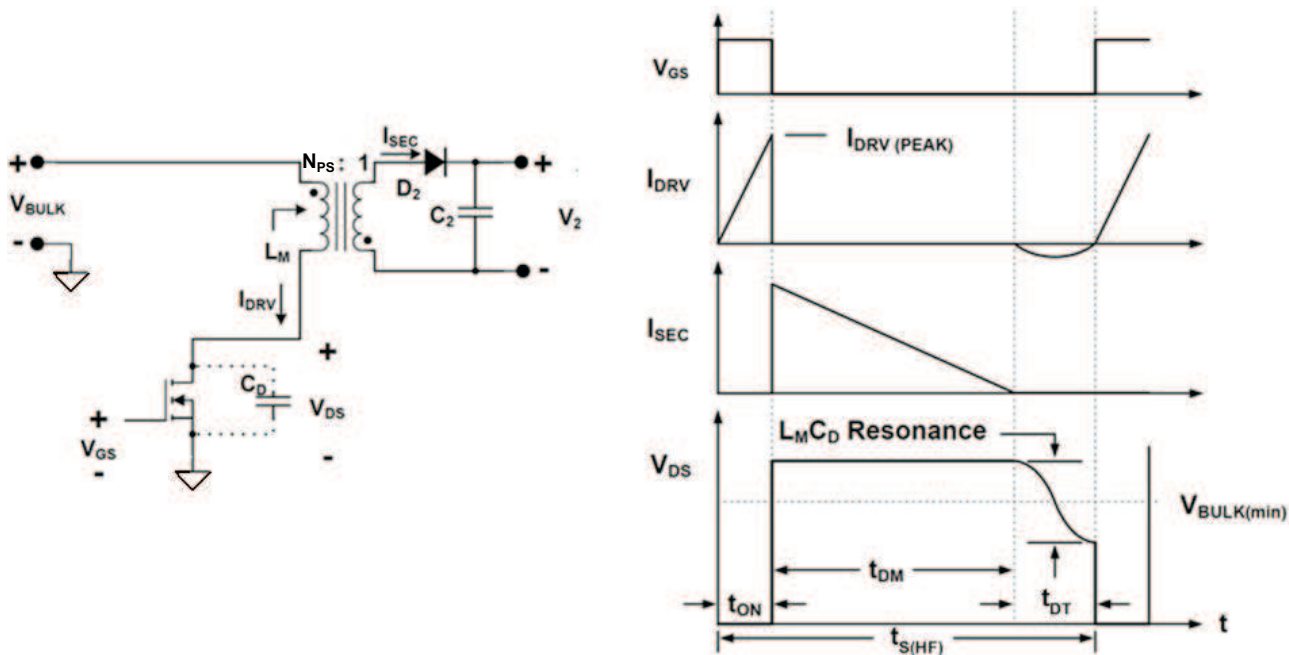

Figure 22. Basic Flyback Converter and Waveforms at Peak Load and Minimum V_{BULK} Voltage
To begin a power supply design, the power supply designer needs to know the peak power to be delivered by the converter, the input voltage range, the output voltage, and an estimate of the maximum allowable bulk voltage ripple. Select the maximum allowable stress voltage for the external power MOSFET. The stress voltage, V_{DS} , determines the reflected secondary voltage that resets the flyback transformer and the turn ratio between primary and secondary. A simplified diagram of the converter and its waveforms are shown in Figure 22.
The minimum switching period is when the converter is operating in the Frequency Modulation (FM) mode, referred to as $t_{S(HF)}$. This switching period must equal the sum of the switching intervals at minimum input voltage, maximum load, as shown in Figure 22 and described in Equation 6. The switching intervals are t_{ON} , the conduction time of the MOSFET; t_{DM} the demagnetization time of the transformer and t_{DT} , the duration of the deadtime, equal to half of the resonant cycle, after the transformer is de-energized.